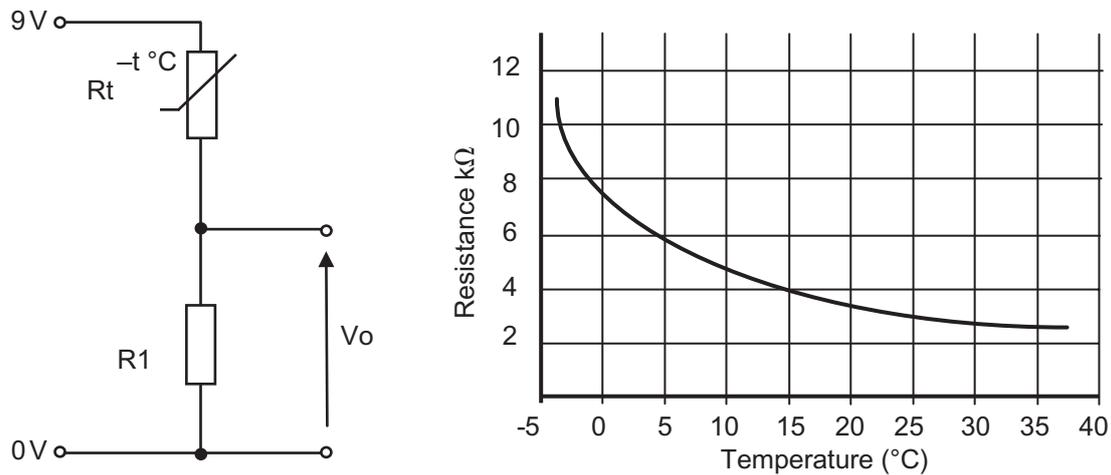

Fig. 1(a)
- 1 The voltage divider circuit shown in **Fig. 1(a)** is to be used as part of a system for measuring air temperature. The resistance/temperature characteristic for the thermistor R_t is also shown.
- (a) (i) State the function of the voltage divider circuit shown in **Fig. 1(a)**. [1]